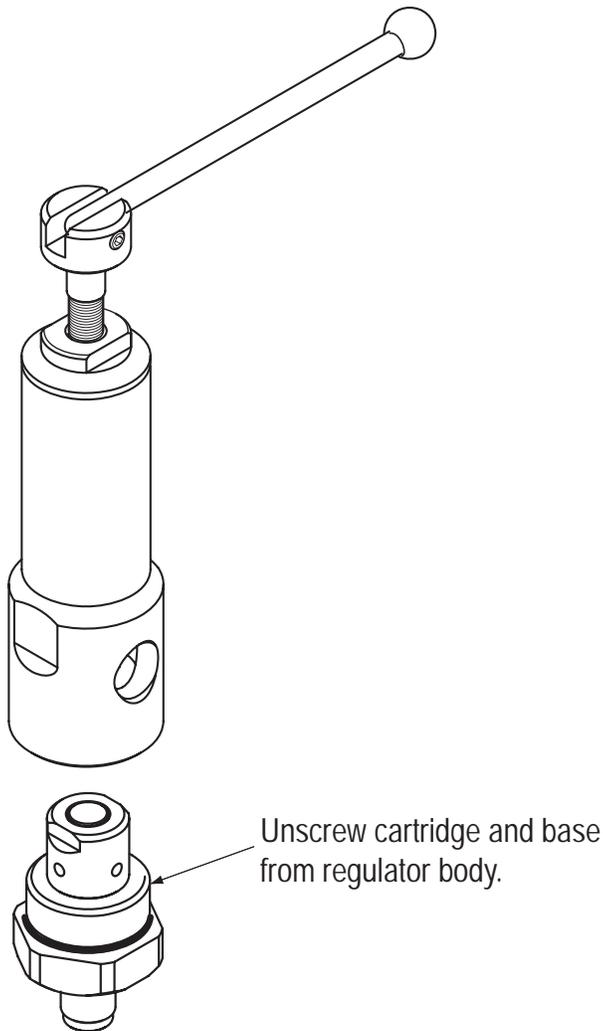

Figure 13. Removing Base
- b. Unscrew high pressure base from body as shown (See Figure 13).